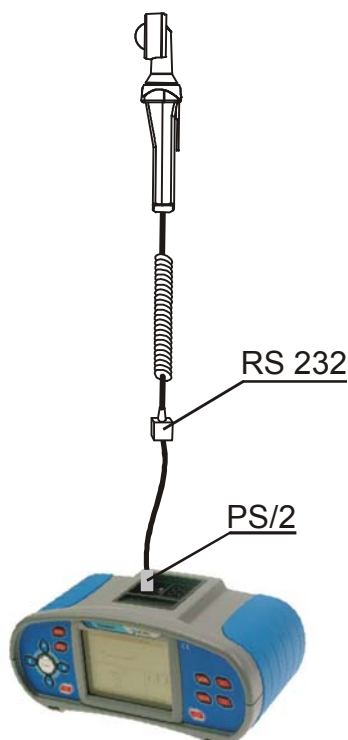

Figure 5.45: Connection of LUX probe to the instrument
- ❑ **Connect** LUX probe to the instrument (see figure 5.45).